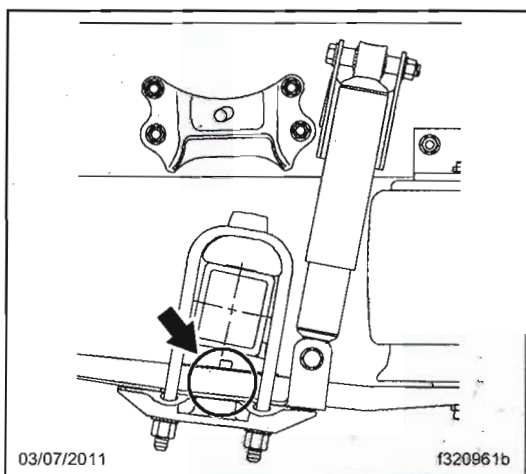

Fig. 1, Spring Inspection
1. Clean all road grime and grease from the surface of the rear suspension springs in the area around the U-bolts. See Fig. 1.